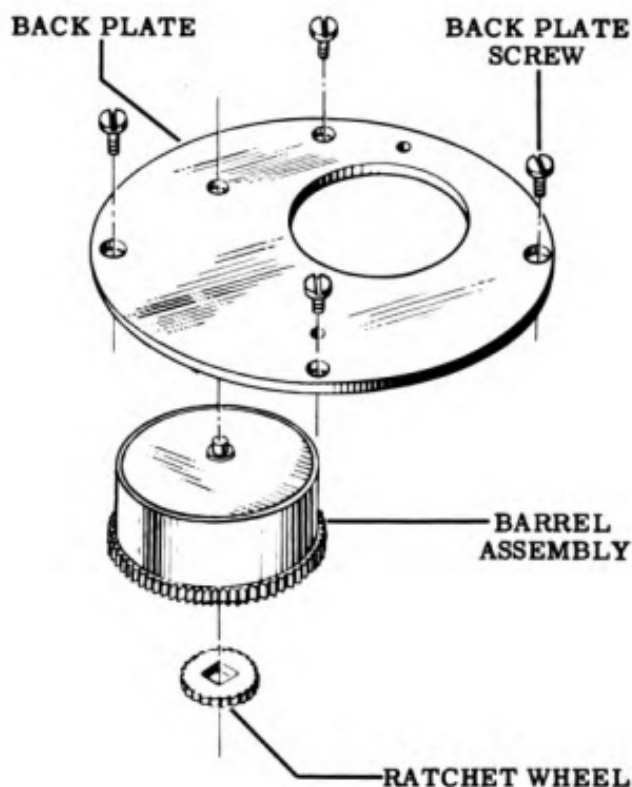
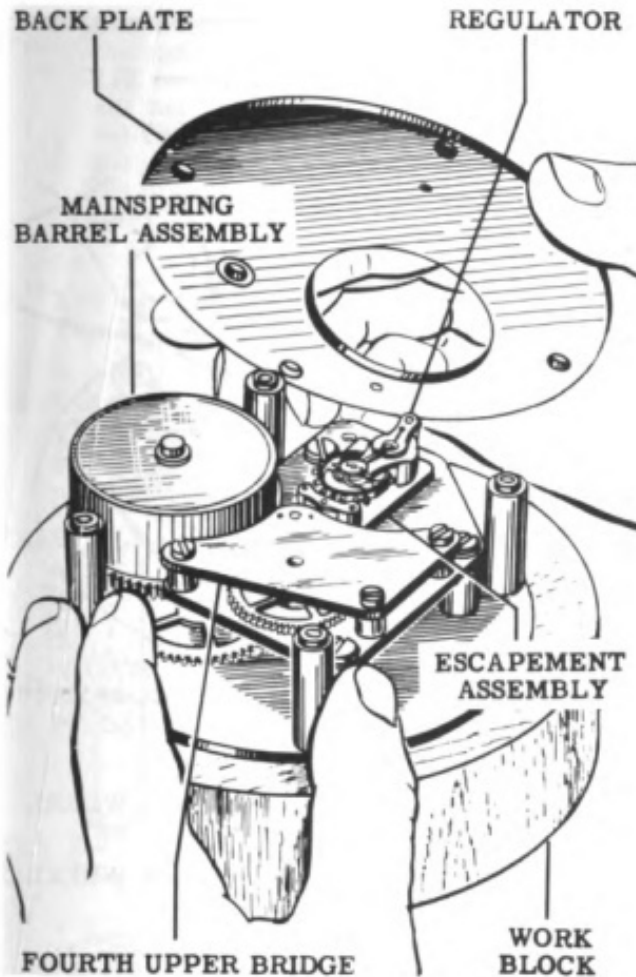

Figure 18
Figure 19
5. Unscrew the four back plate screws (see Fig. 18) and lift off the back plate as shown in Fig. 19.
6. As soon as the back plate has been removed, lift out the mainspring barrel assembly and the ratchet wheel. The positions of these parts are shown in Fig. 18.